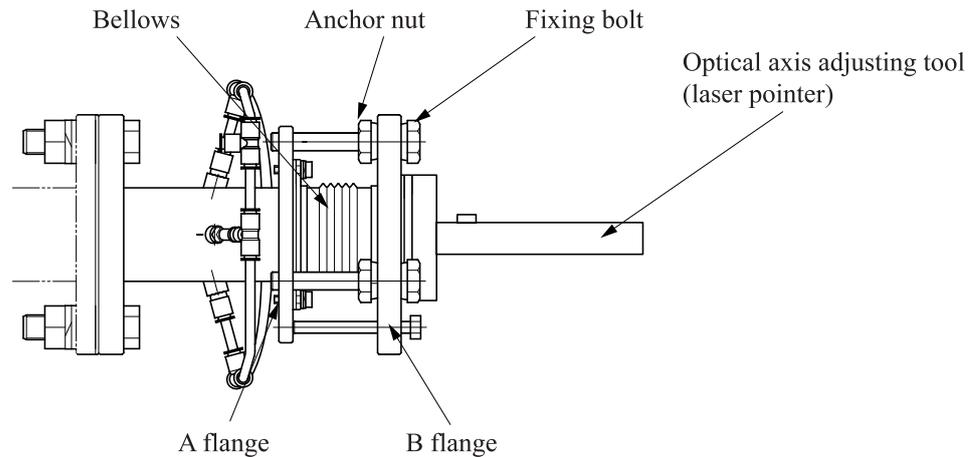

Fig. 4-4
- (1) When A and B flanges shown in Fig. 4-4 are extremely tilted, adjust them in a flat place so that they are parallel to each other. Refer to “4.7.1 How to operate the angle adjustment unit” before mounting the stack unit.
- (2) Mount the angle adjustment unit to the companion flange on the stack.